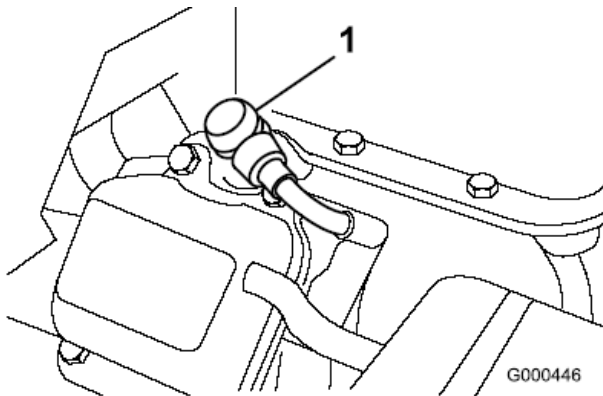

Figure 17
1. Pull molded wire off spark plug (Figure 17).